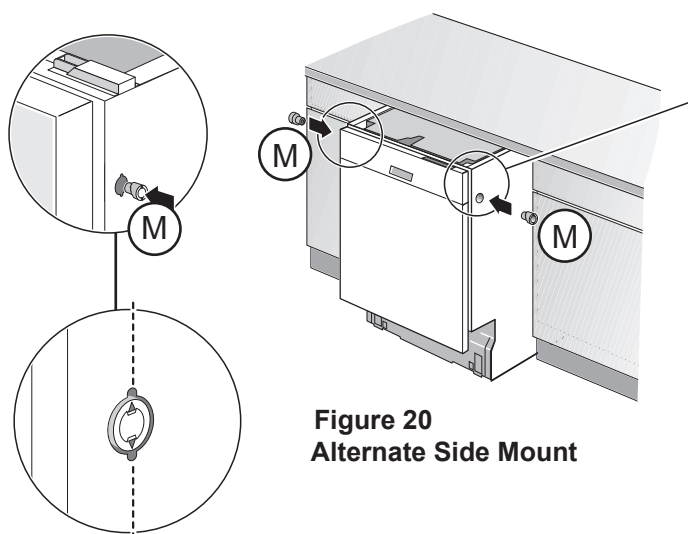

Figure 20
Alternate Side Mount for opening $23\frac{5}{8}$ " (600 mm). Insert a side mount force distributor (M) in each side as shown in **Figure 20**.